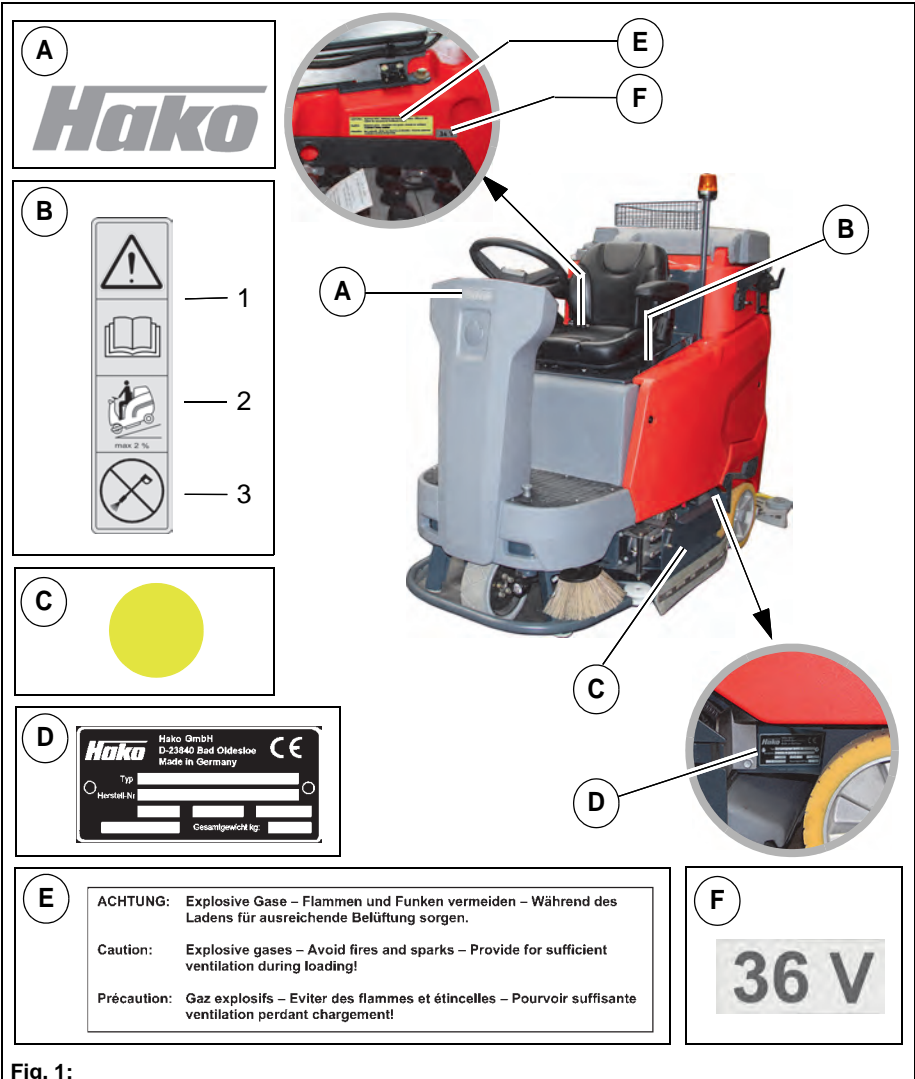
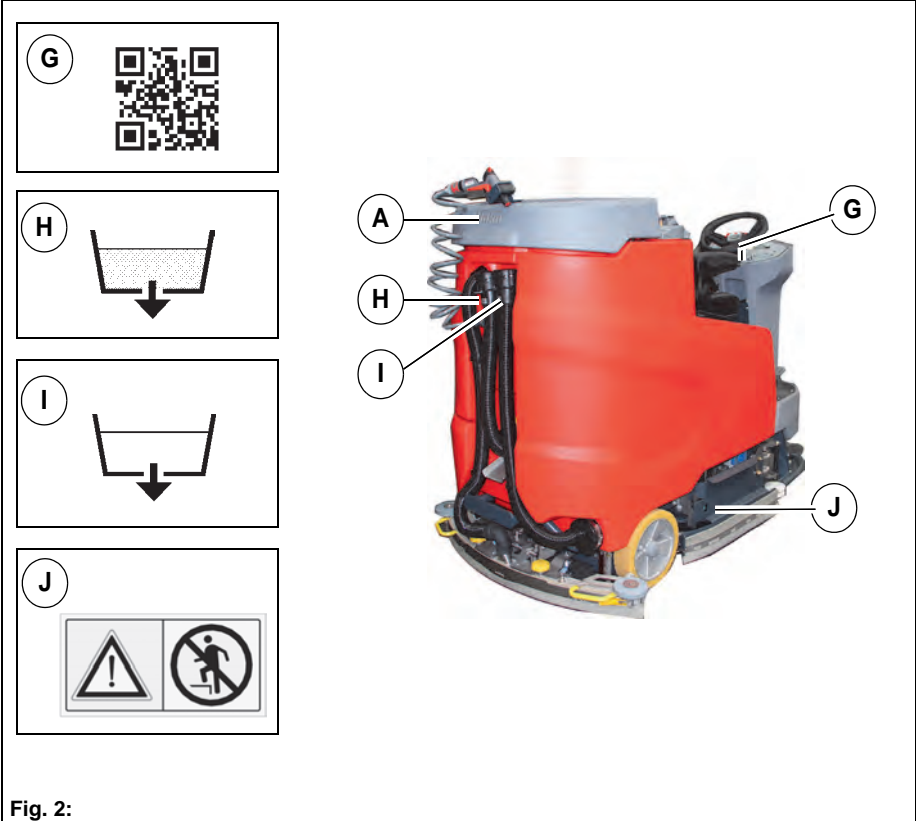

Fig. 1:
Fig. 2:
**Company logo label Fig. 1/ Fig. 2-A**
- **Read and observe the operating manual Fig. 1-B1**
- **Maximum permissible slope 6 % when cleaning Fig. 1-B2**
- **Never clean the machine with a high-pressure cleaner Fig. 1-B3**
**Label – Maintenance parts (yellow dot) Fig. 2-C**
**Label – Type plate Fig. 2-D**
**Label – Explosive gases Fig. 1-E**
**Label – 36 V Fig. 1-F**
**Label – QR code Fig. 2-G**
**Label – Drain waste water Fig. 2-H**
**Label – Drain fresh water Fig. 2-I**
**Label – Keep off! Fig. 2-J**